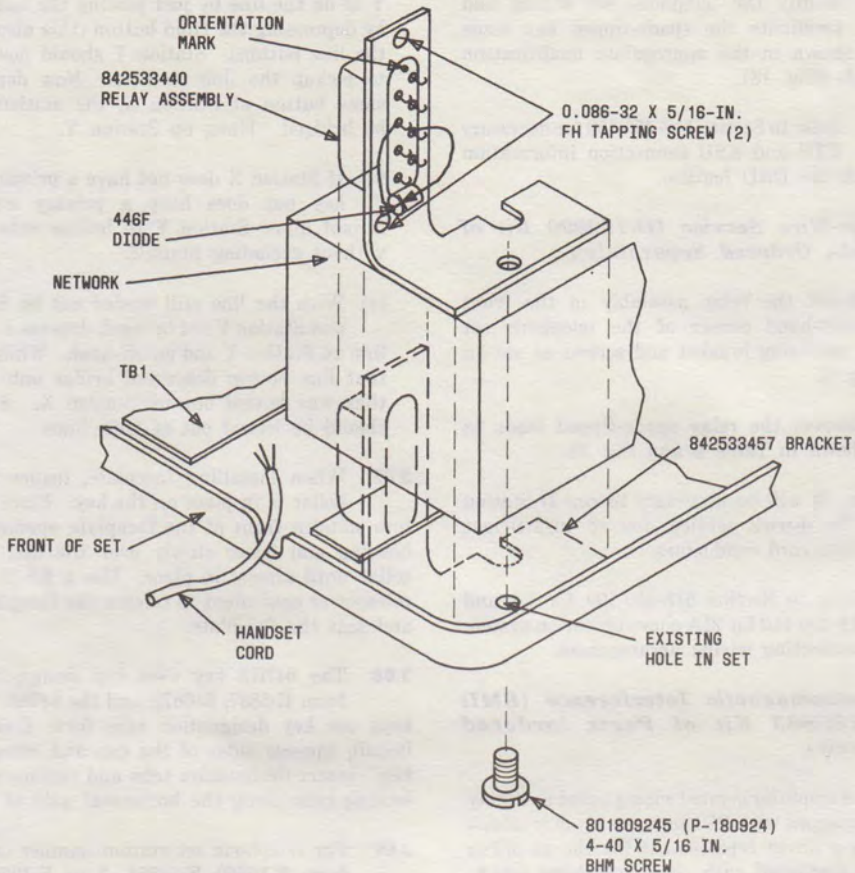

Fig. 6—Mounting Location for D-180990 Kit of Parts for 4-Wire Service
(1) Mount the relay assembly in the front right-hand corner of the telephone set using mounting bracket and screws as shown in Fig. 6.